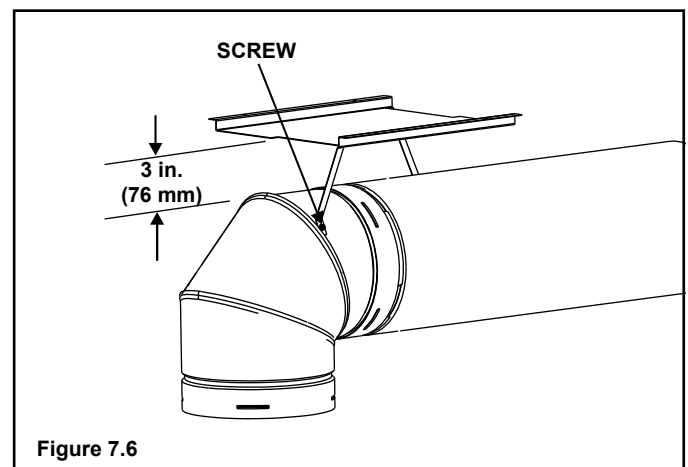

Figure 7.6
- If the combustible materials are not in place at the time of install the elbow heat shield may be screwed to the exhaust pipe (see Figure 7.6). Cut the tabs as shown and bend down. Secure the heat shield to the pipe maintaining 3 inch to 4 inch between the pipe and shield.